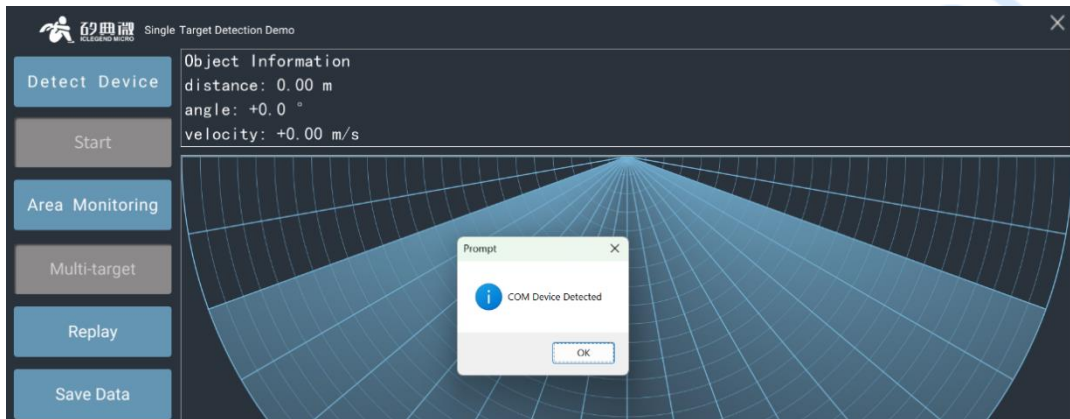

Figure 4-6 Device successfully detected
Step 2: Click the **Detect Device** button: if the module successfully connected to the host PC, a window writing Serial Port Device Detected will appear, as shown in Figure 4-6, click the **OK** button to continue;